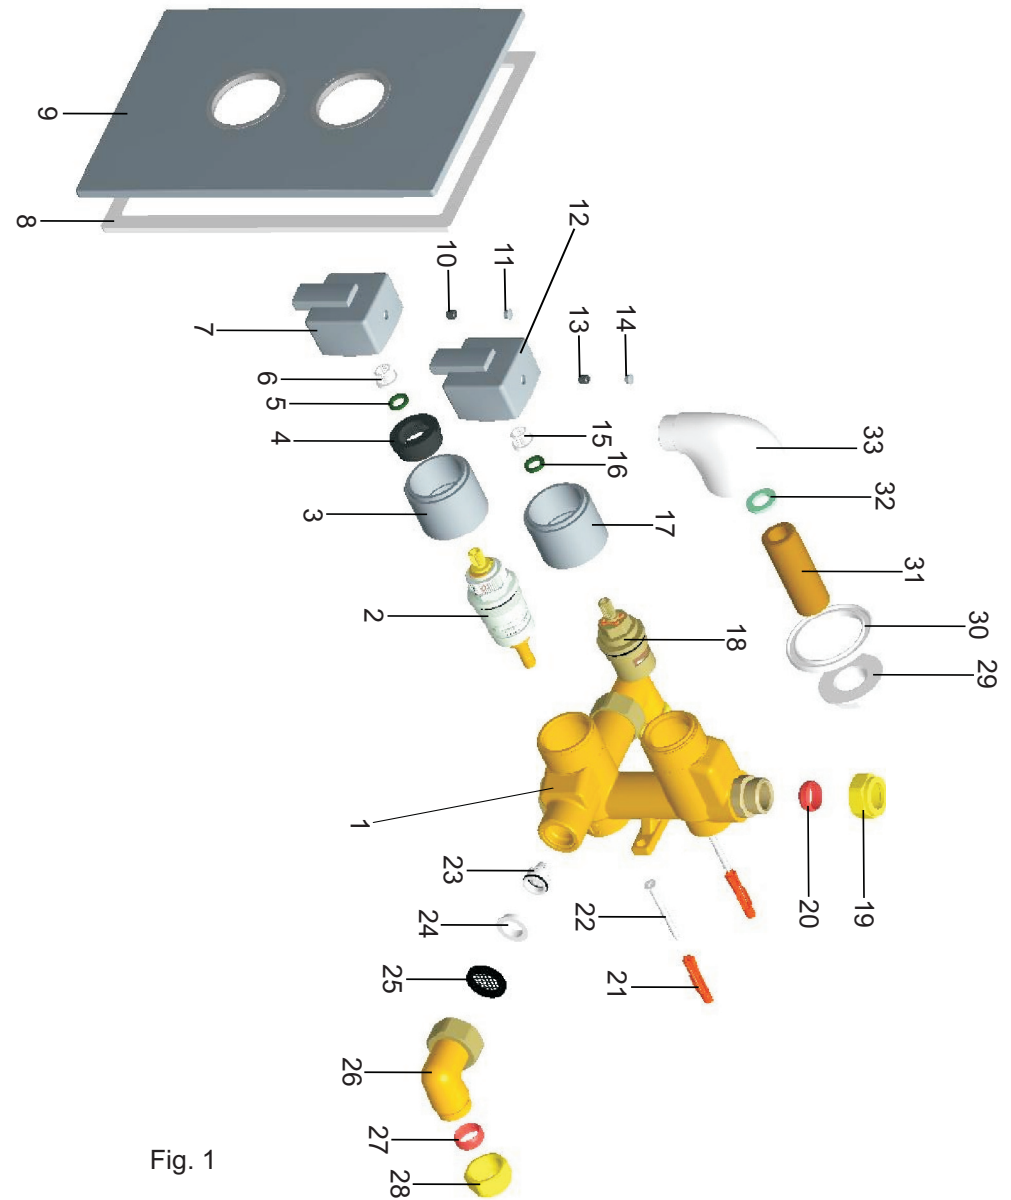

Fig. 1
4.1 Pre-Installation (See Fig.1)